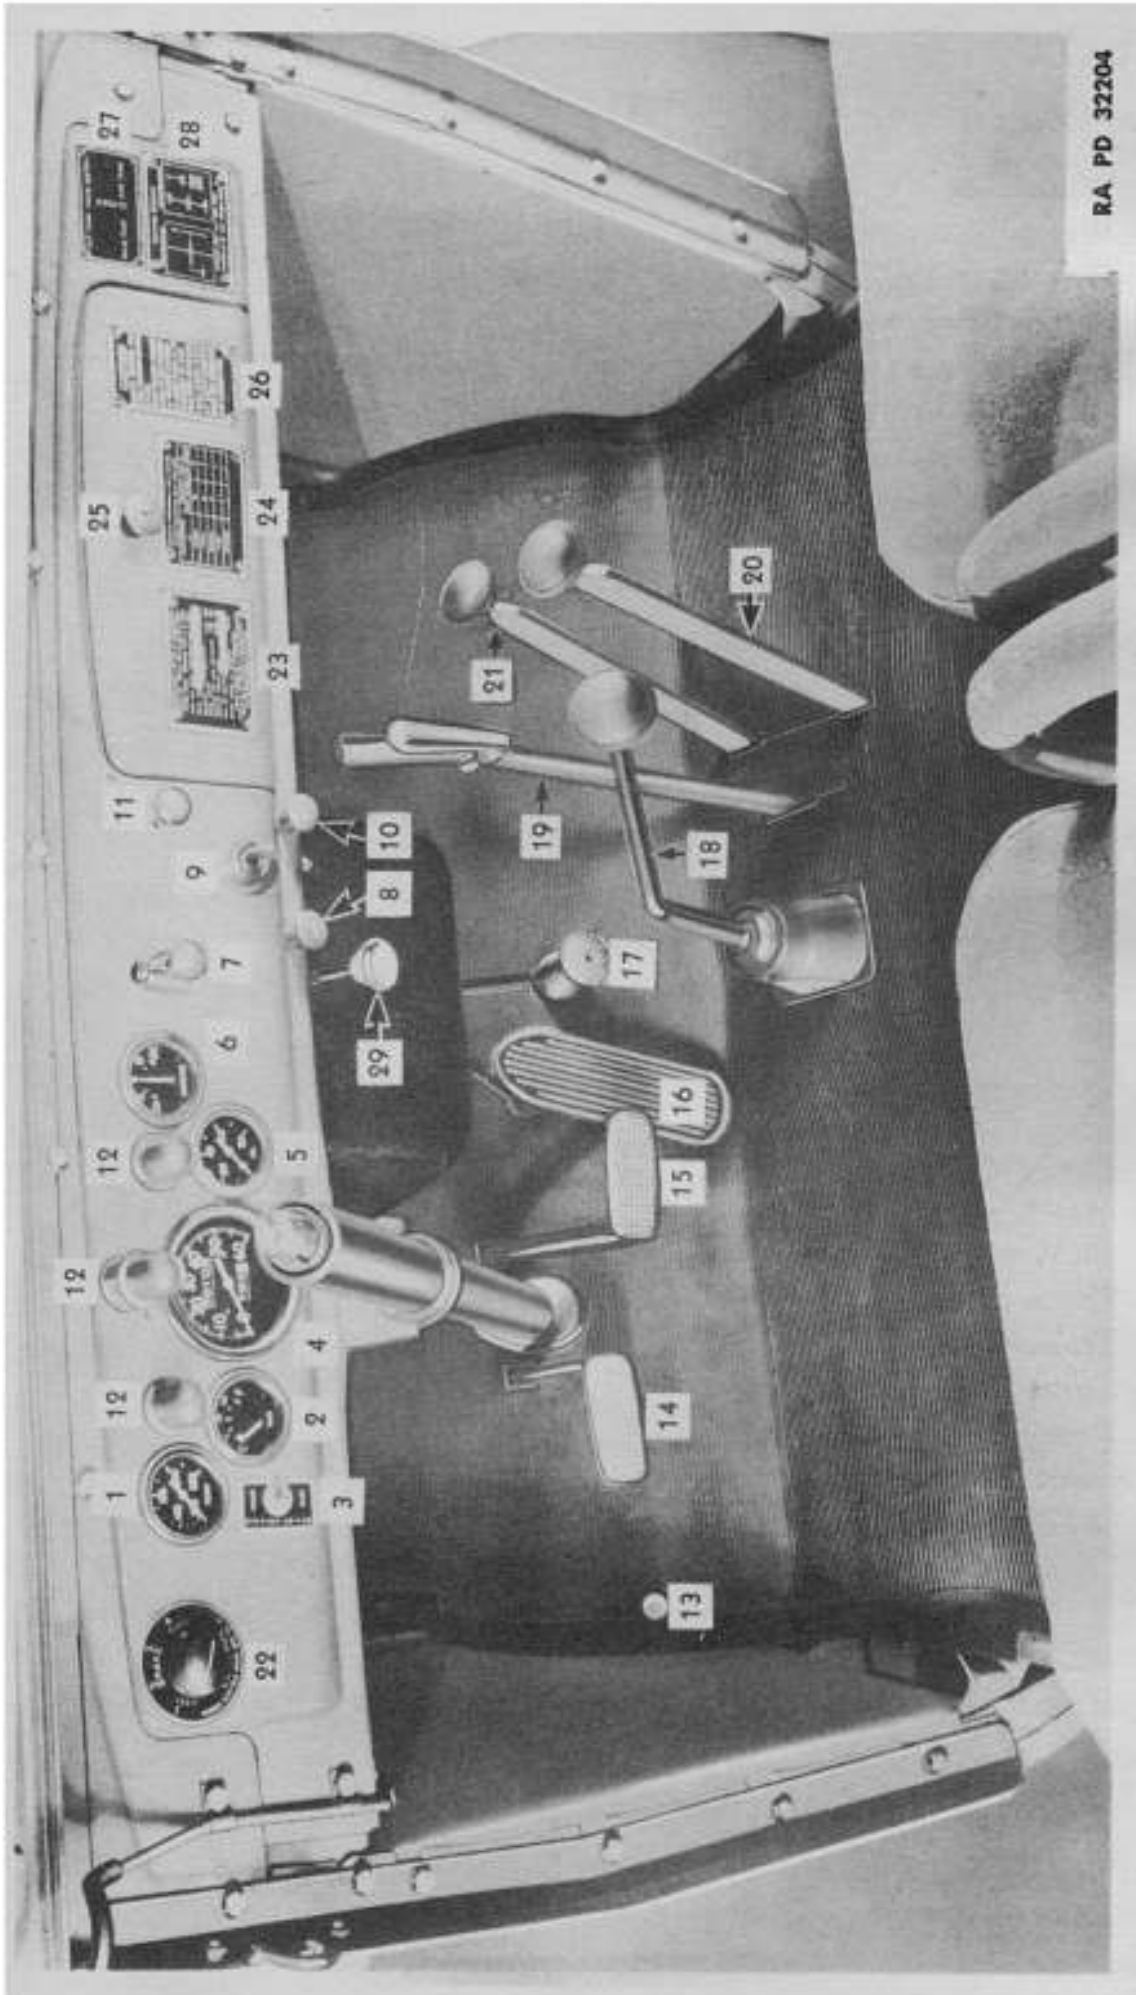

Figure 4—Driver's Compartment
Nomenclature for Figure 4—Driver's Compartment
a. It is of definite importance that the driver of one of these vehicles be thoroughly familiar with the various controls and their proper use. Even the experienced driver should study the controls shown in figures 4, 5, 6, 7, 8, 9, and 10 as there are a number which are not ordinarily found on standard vehicles.
b. Figure 4 illustrates the controls, instruments and instruction plates and their location. In the following instructions we will refer to this illustration by the key number of the control or instrument being discussed so that the reader may easily follow the instructions.